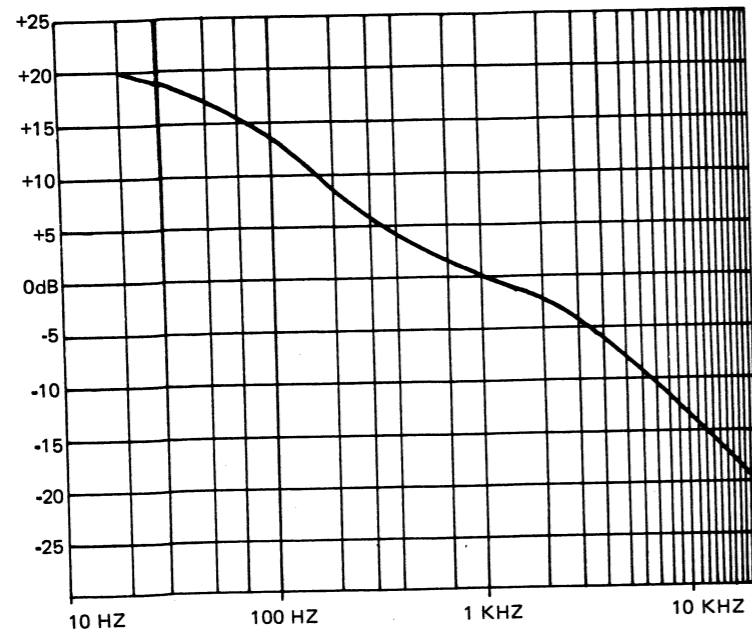

Figure 6. RIAA Equalization Curve
9. Sweep oscillator frequency from 20Hz to 20KHz. The output voltage of each channel should follow the curve shown in Figure 6 within ± 2 dB.